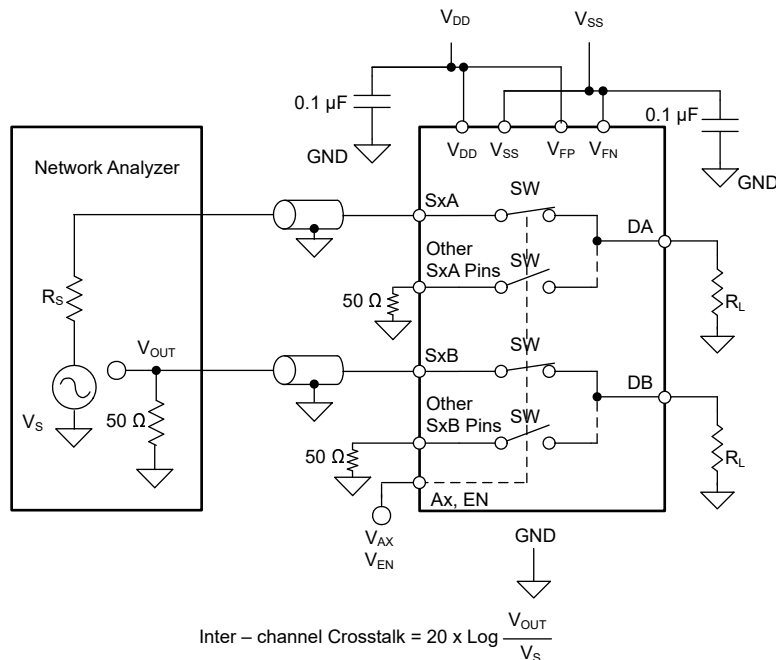

Figure 8-16. Inter-Channel Crosstalk Measurement Setup
2. Inter-channel crosstalk ($X_{TALK(INTER)}$): Figure 8-16 shows the voltage at the source pin (Sx) of an on-switch input, when a signal is applied at the source pin of an on-switch input in a different channel. Inter-channel crosstalk applies only to the TMUX7349F device.